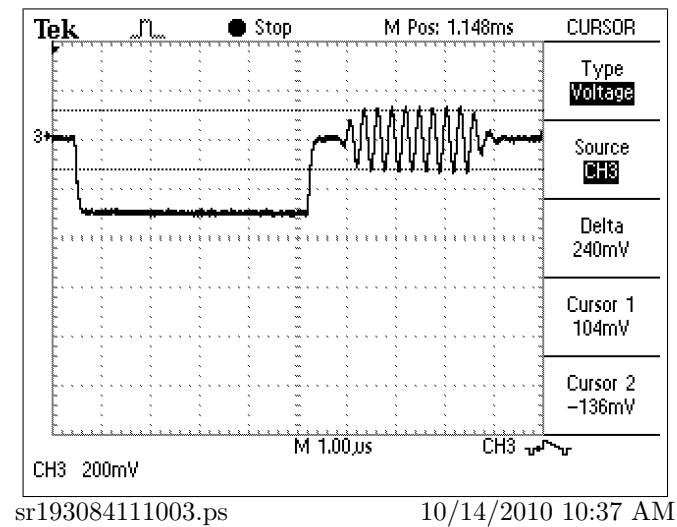

Figure 3: VK-S275R 0501-0102, Color Burst Voltage, Capture #2
- 9.3 Figure 3, page 4, shows the voltage levels of the Color Burst signal.